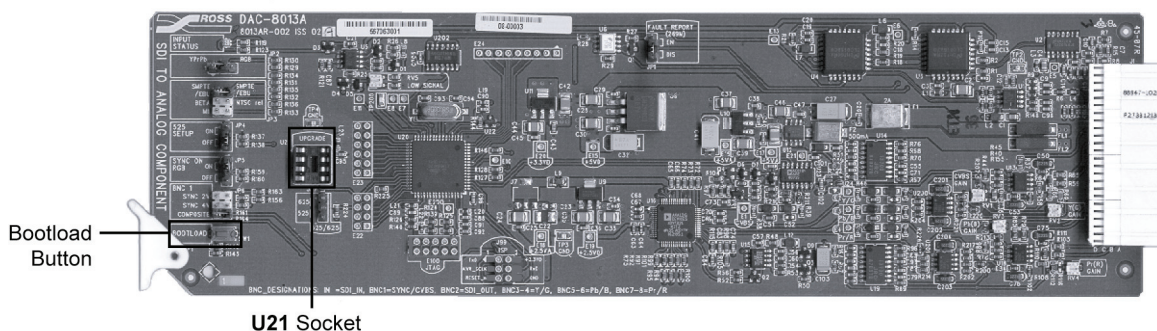

Figure 5. DAC-8013A Upgrade Socket and Bootload Button Locations
1. With the card out of the frame, refer to Figure 5, to locate the **U21** socket.